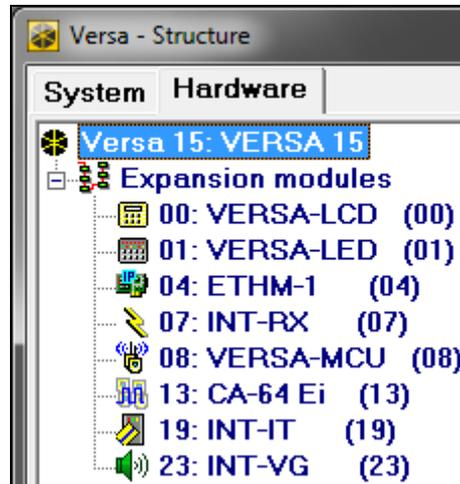

Fig. 12. DLOADX program: List of devices connected to the control panel, displayed in the "Hardware" tab, "VERSA – Structure" window.
- DLOADX program: "VERSA – Structure" window → "Hardware" tab. The list of devices is presented in the form of tree structure on the left side of the window (Fig. 12). Click on the name of device you want to configure.